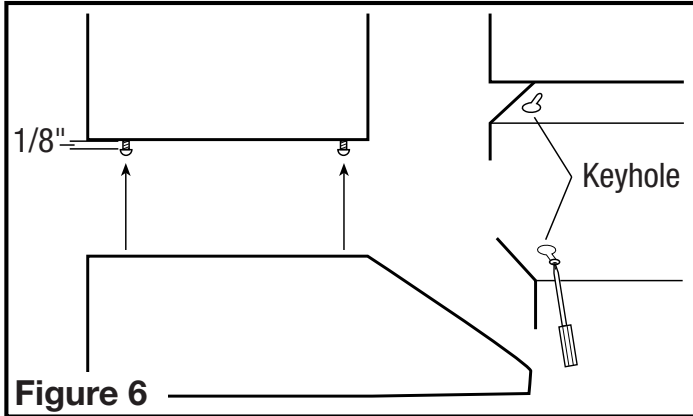

Figure 6
1. Install the 4 mounting screws at the previously marked locations. Leave approximately 1/8" clearance. Slide the hood in place through the keyhole slots and align the front of the hood so that it is flush with the front of the cabinets. Tighten all screws securely (Figure 6).